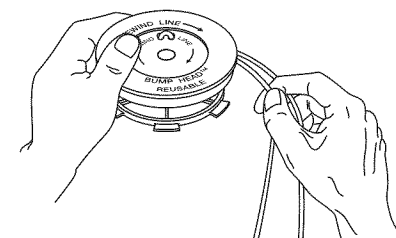

Fig. 18
7. Wind the lines in tight even layers onto the reel (Fig. 18). Wind the line in the direction indicated on the inner reel. Place an index finger between the two lines to stop the lines from overlapping. Do not overlap the ends of the line. Proceed to step 12.